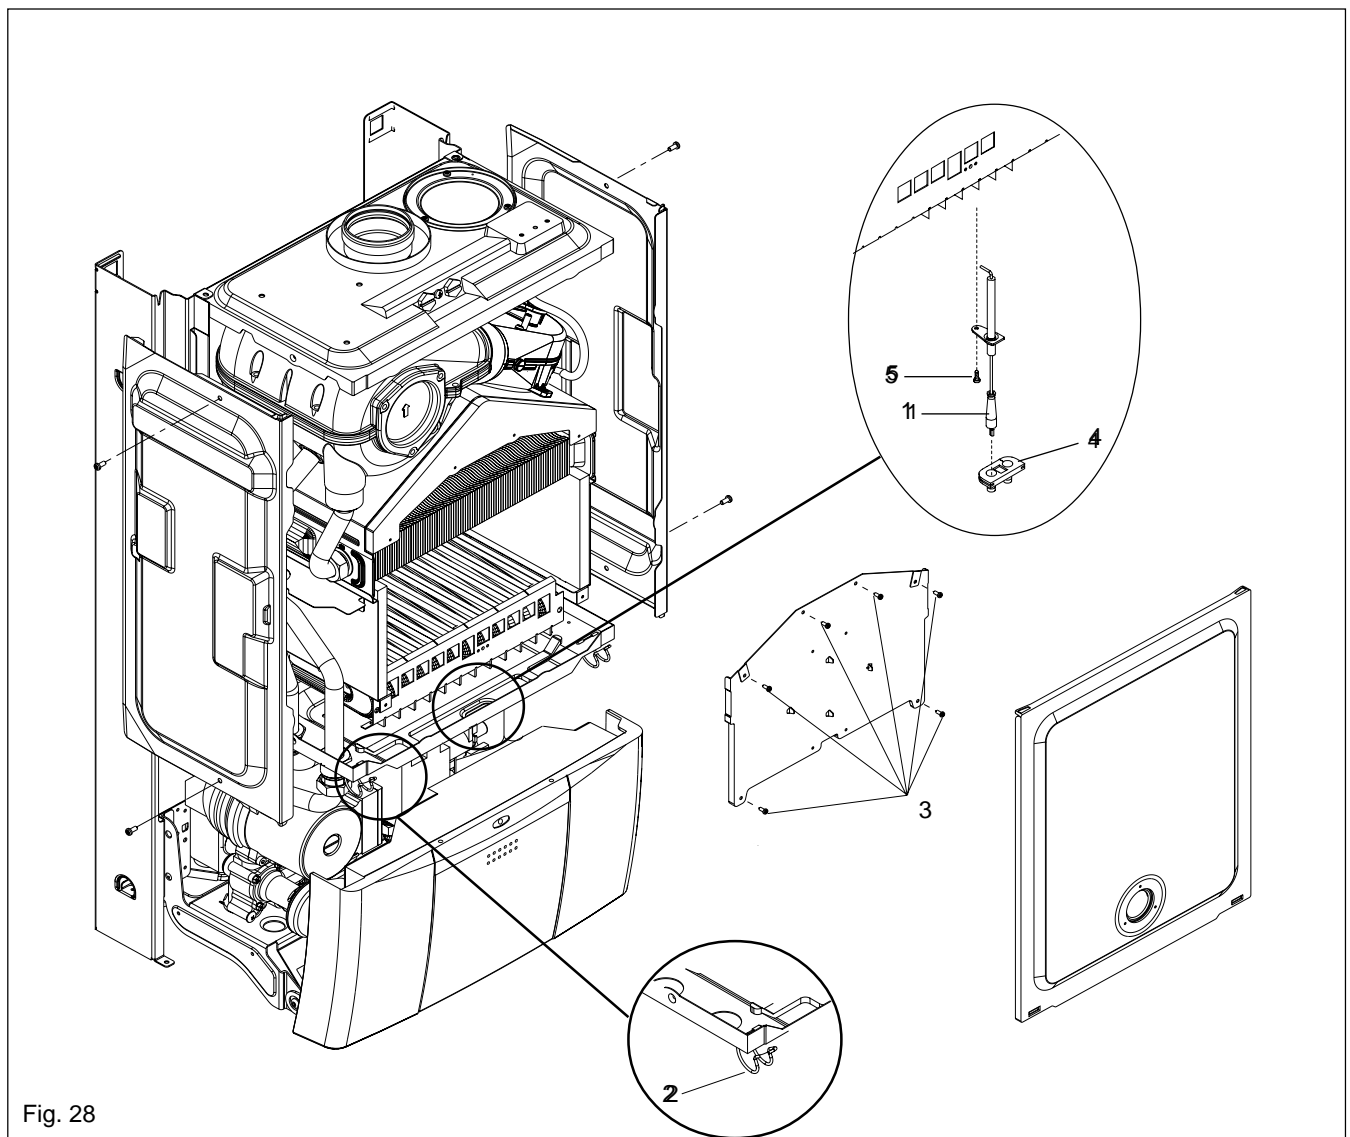

Fig. 28
### 6.16 FLUE FAN (see fig. 28 & 30)
**Fig. 28:** unclip and remove the air chamber cover, gently pull the cover towards you before lifting and disengaging (2). Locate and remove the six screws that secure the front combustion cover, then remove the cover (3).